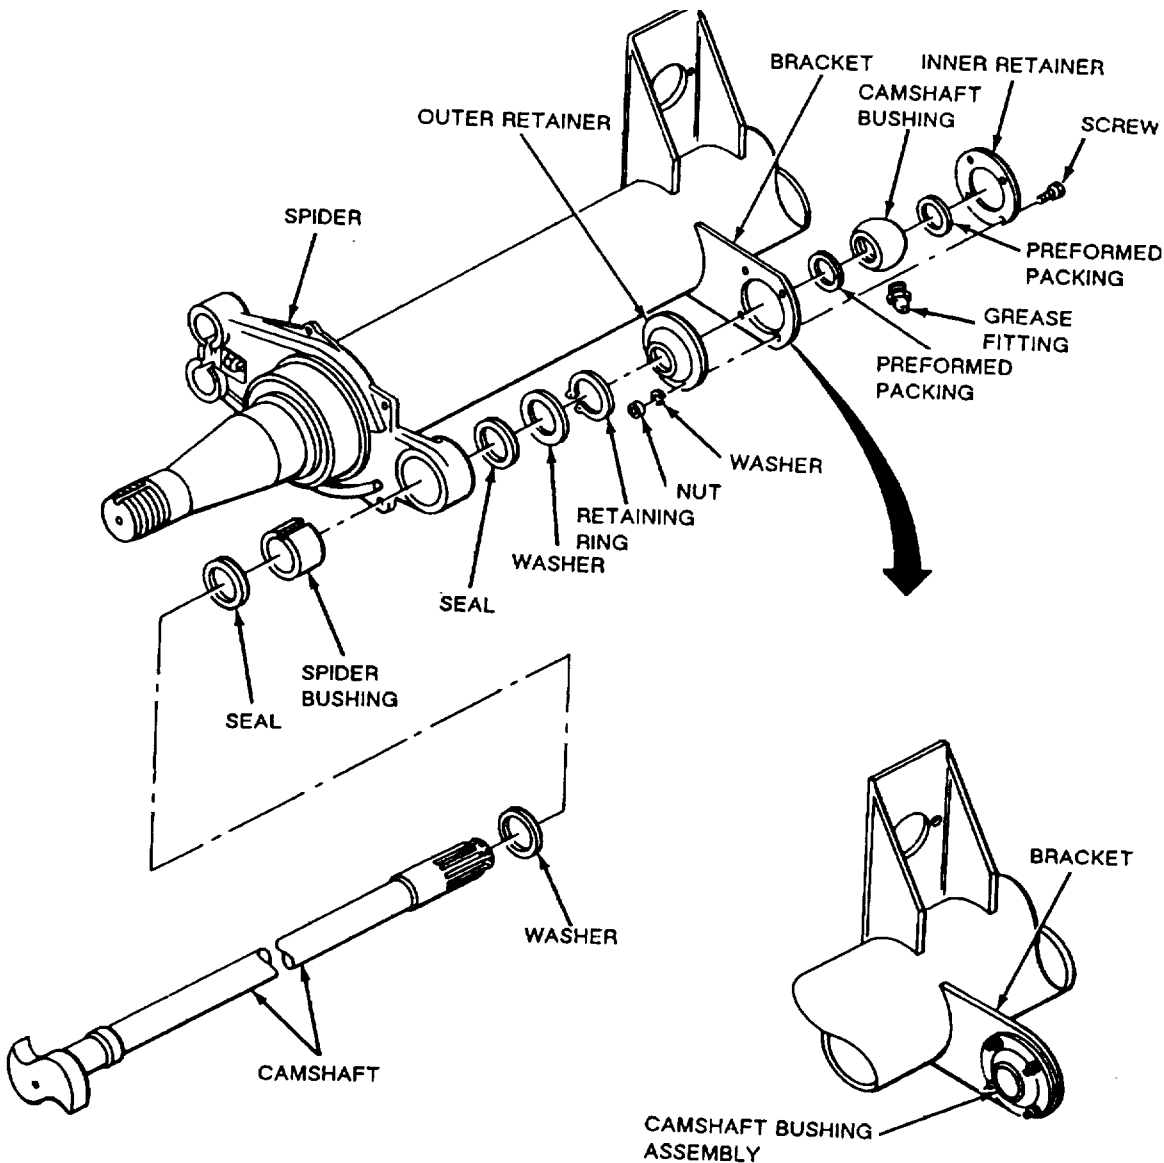
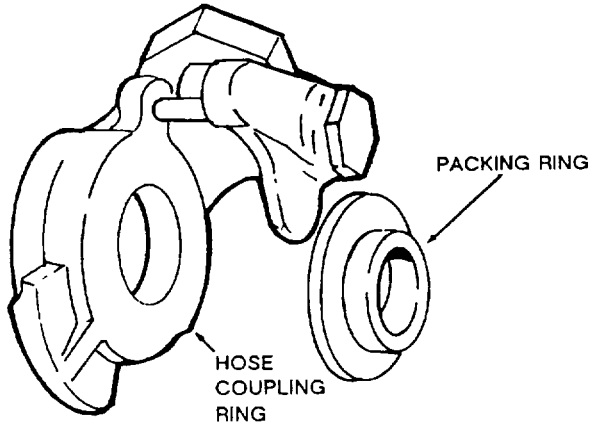

Figure 4-51. Brake Camshaft Removal and Installation
Figure 4-52. Packing Ring Installation.
**4-44. Brake Camshaft, Fig. 4-51.**
- (1) Remove wheel and drum assembly.
- (2) Remove brake shoes, para 4-41.
- (3) Remove slack adjuster, 4-43.
- (4) Expand retaining ring and slide camshaft part way out of spider. Remove retaining ring.
- (5) Glide camshaft out of spider.
- (6) Remove two washers and two seals from camshaft.
- (7) Remove spider bushing.
- (8) Remove four nuts, four washers, and four screws securing camshaft bushing assembly to bracket.
- (9) Remove inner retainer and outer retainer.
(1) Connect air brake hose couplings from towing vehicle to semitrailer, fig. 4-51. Apply brakes and coat hose couplings, connectors, and fittings of emergency and service lines with soap and water solution. No leakage is permissible.
(2) Check air lines and fittings for restriction caused by dents or kinks.
(3) Coupling damage is usually caused 1 worn, damaged, or improperly installed packing ring Install new packing ring to stop leaks.
b. *Packing Ring Replacement, fig. 4-52.*
(1) Remove packing ring by prying out of coupling with screwdriver or other suitable tool.
(2) Clean groove in body. Partially collapse packing ring with fingers and put one side of packing ring flange into groove. Use a blunt-ended tool to push ring